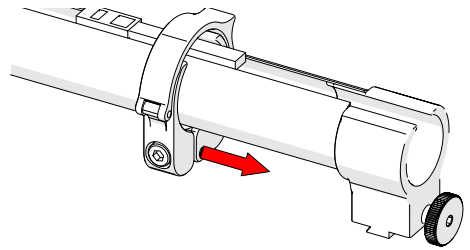

Fig. 82 - Slide clamp onto mount
3. Slide the clamp over the sleeving and cable management dovetail mount, pinching the sleeving in between (*Fig. 82*).